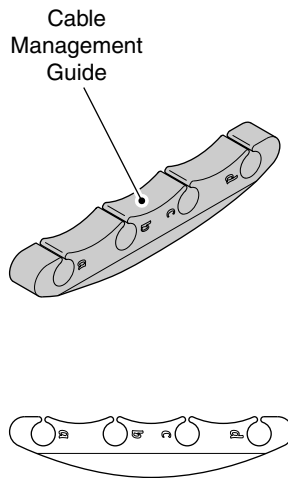

Figure 13 Cable guide (pillar)
- Cable guides (pillars)—A set of 16 cable guides (pillars) are provided with the switch and can be used to organize the port cables into logical groups, such as according to port quads (sets of four neighboring ports). The cable guides do not attach to the chassis (see Figure 13).